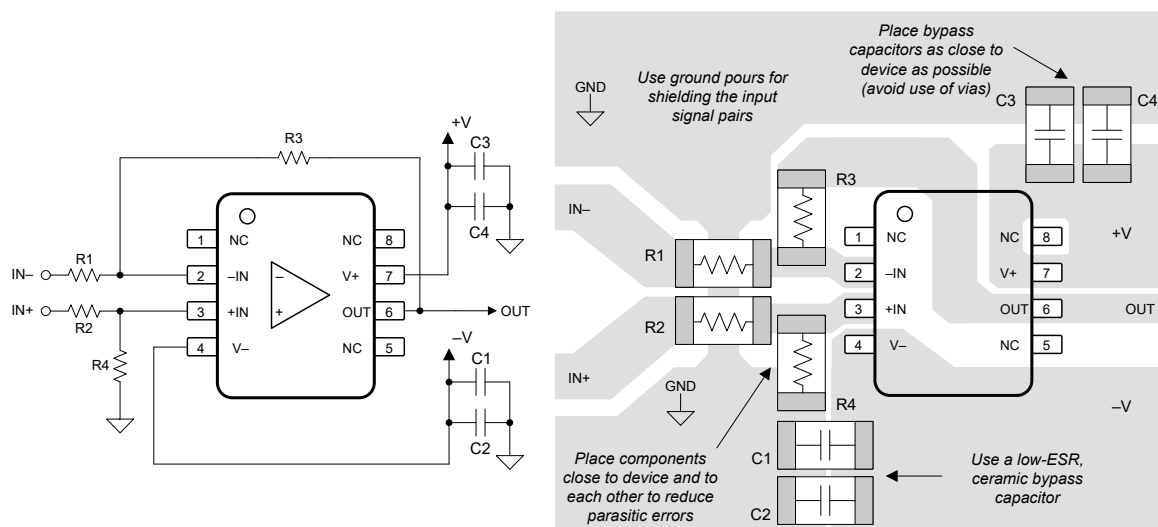

图 8-7. Operational Amplifier Board Layout for Difference Amplifier Configuration
- Place the external components as close as possible to the device. As Figure 8-7 shows, keep the feedback resistor (R3) and gain resistor (R4) close to the inverting input to minimize parasitic capacitance.